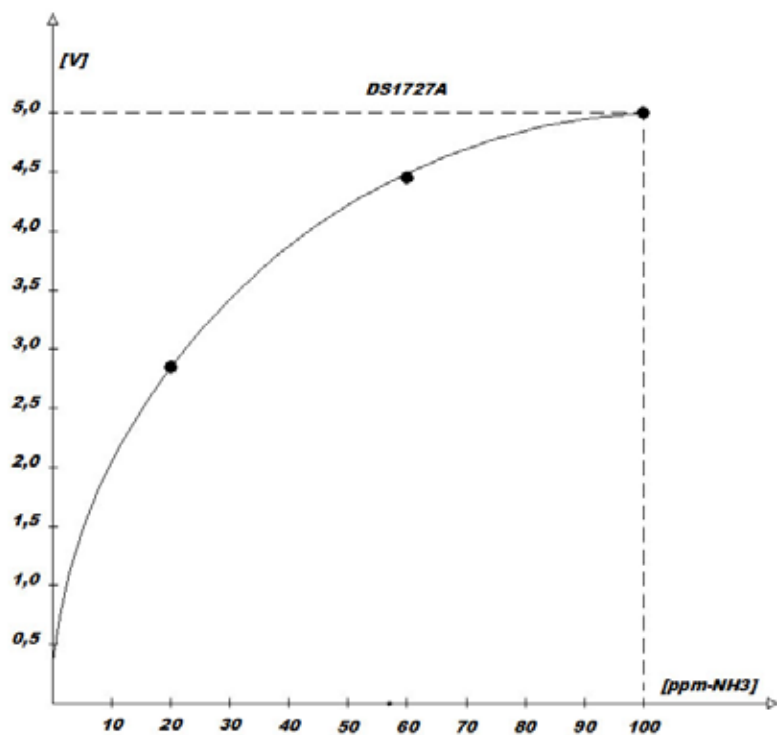
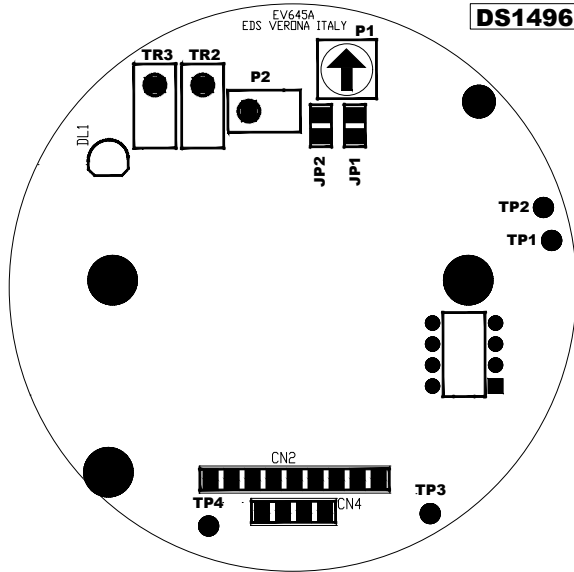

Fig. 1
Fig. 3
3.1 - Supply the detector with 12 - 24 Vdc using the V+ and V- terminal block (see fig. 3).
5.1 - On the OUT terminal (terminal block 3, fig. 3) a 0-5 V analog output, proportional to the gas concentration, is available. The output is related to the Ammonia concentration as shown in fig.1 - 2.
5.2 - The COM1-NA/NC1 COM2-NA/NC2 terminals (terminal blocks 4,5,6 and 7, only for EV-SGC20-A/A1, fig. 3) are the NO (normally open) and NC (normally closed) contacts of the internal relays. These contacts can work in normally energized mode or in normally not energized mode and these two working modes can be selected with the JP3, JP4, JP5 and JP6 jumpers (see fig. 3 and fig. 5). It is possible, for each relay, to select NO (normally open) or NC (normally closed) contact positioning the JPI and JP2 in the suitable position (see fig. 3 and fig. 5). If the first threshold is reached the R1 relay is activated. If the second threshold is reached the R2 relay is activated.
5.3 - A Fault OC (open collector) output is available on the terminal block 8 (see fig. 3).
5.4 - If the corresponding option is mounted the 4-20mA output available is on the terminal board on the 9 and 10 blocks (AMP+ e AMP- in fig. 3).
5.5 - If the Digital Address (optional) is mounted on the board the external bus can be connected using the 11 and 12 terminal blocks (IDA and IDB in fig. 3).
ppm of NH₃ in air and are fully adjustable using TR1 and TR2 trimmers of the upper circuit (fig. 3) and measuring on the TP1 and TP2 test points with the following operations:
- adjust the TR1 trimmer (fig. 4) of the lower circuit until the output signal, that can be checked with a multimeter on the OUT terminal block (fig. 3), to 0.5V. As the output signal does not fall under this voltage level (it is the measuring zero) you must verify to be in a point where the signal rises turning the trimmer.
10.1 - 4-20mA Output: it's an option that to have a current output on the 9-10 terminals on the terminal board (fig. 3).